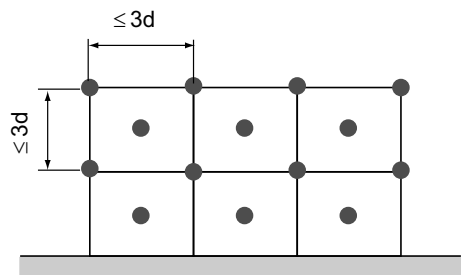
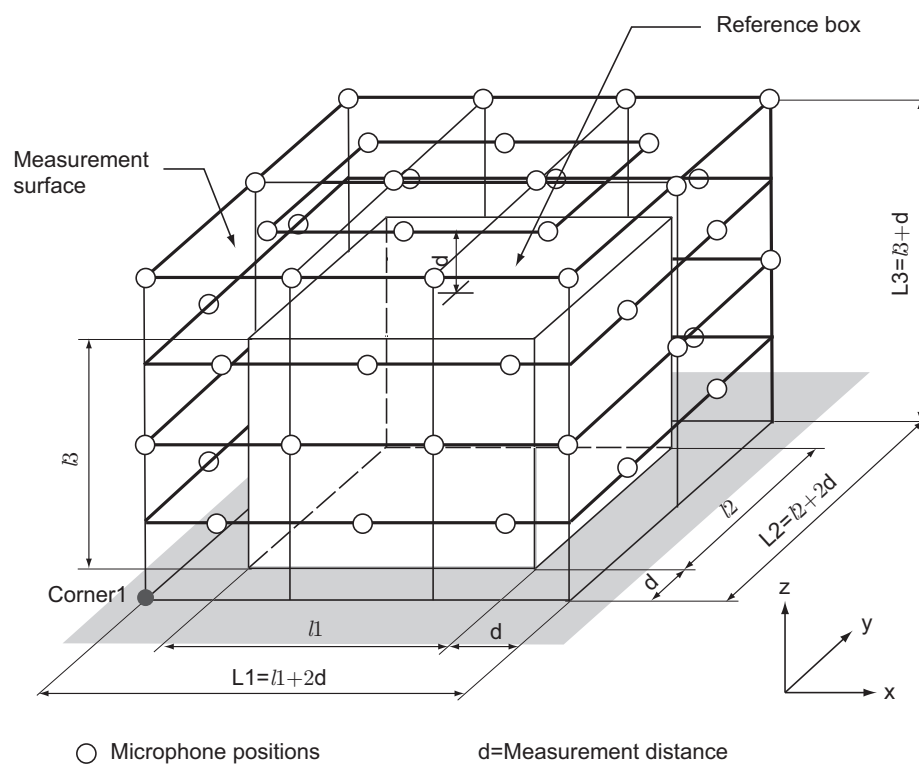
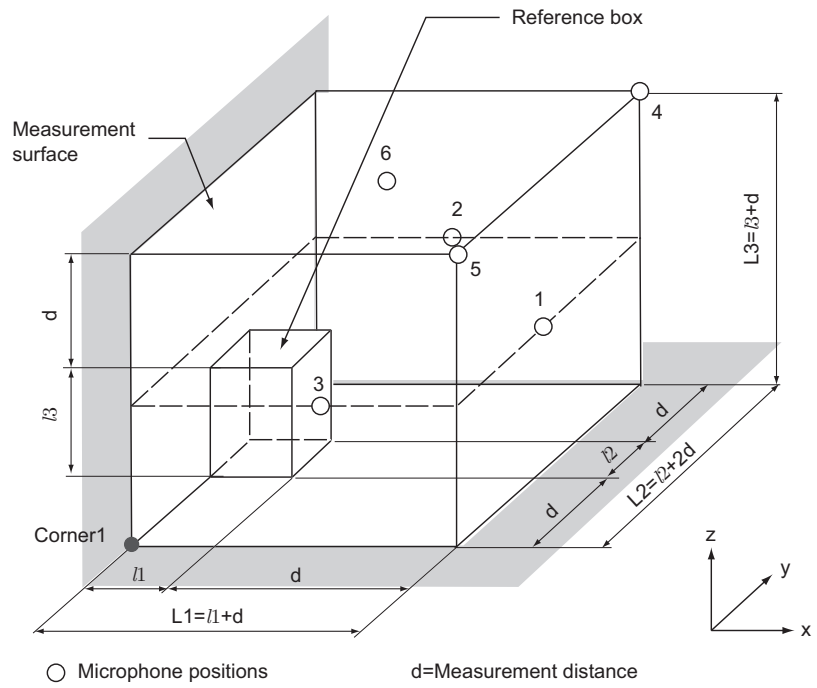
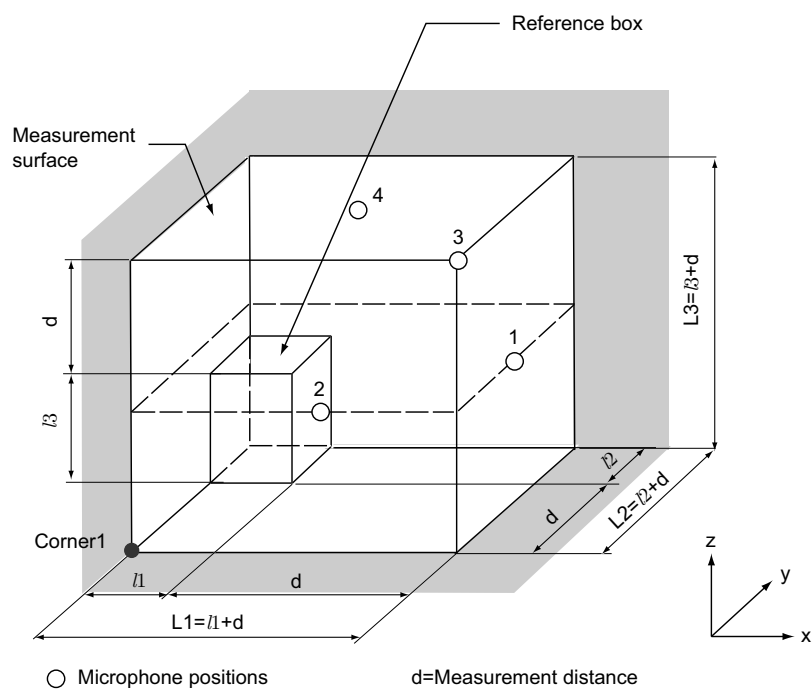

Figure 7.40 ISO3744 - Procedure for fixing microphone positions on a parallelepiped measurement surface.
Figure 7.41 ISO3744 - Parallelepiped measurement surface with microphone positions.
Figure 7.42 ISO3744 - Parallelepiped measurement surface with microphone positions for a source placed on the floor against a wall.
Figure 7.43 ISO3744 - Parallelepiped measurement surface with microphone positions for a source placed on the floor against two walls.
Parallelepiped Use parallelepiped measurement surface when there is only one reflecting plane. Figure 7.41 shows a parallelepiped measurement surface whose sides are parallel to those of the reference box. Click on the **Suggest** button to auto fill the measurement surface variables in agreement with the standard. Verify the input you have entered by clicking on the **Check** button. *Coustyx* checks to see if the input variables satisfy the standard requirements. If the standard requirements are not met, a message window pops up to help you make appropriate corrections.
X-Axis Specify the orientation of the X-axis here. See Figure 7.41 for definition.
Y-Axis Specify the orientation of the Y-axis here. See Figure 7.41 for definition.
Corner1 Specify Corner1 of the parallelepiped surface here. See Figure 7.41 for definition. The parallelepiped is constructed using Corner1 as the starting point and $L1$, $L2$, $L3$ as its dimensions along X, Y, Z-axis respectively.
L1 Length of the parallelepiped in X-direction (Figure 7.41). Specify the value of $L1$ such that it satisfies the definition, $L1 = l1 + 2d$, where $l1$ is the reference box dimension in X-direction, and d is the measurement distance. The recommended value for $d = 1\text{ m}$.
L2 Length of the parallelepiped in Y-direction (Figure 7.41). Specify the value of $L2$ such that it satisfies the definition, $L2 = l2 + 2d$, where $l2$ is the reference box dimension in Y-direction, and d is the measurement distance. The recommended value for $d = 1\text{ m}$.
L3 Length of the parallelepiped in Z-direction (Figure 7.41). Specify the value of $L3$ such that it satisfies the definition, $L3 = l3 + d$, where $l3$ is the reference box dimension in Z-direction, and d is the measurement distance. The recommended value for $d = 1\text{ m}$.
N1 Number of subdivisions in X-direction (Figure 7.41). Select the value of $N1$ such that the length of the rectangular partial area formed by these subdivisions satisfies the criterion: $\frac{L1}{N1} \leq 3d$, where $L1$ is the length of parallelepiped in X-direction, and d is the measurement distance. Refer Figure 7.40. The microphone positions are in the center of each partial area and at each corner of the partial area (excluding the corners intruding into reflecting planes).
N2 Number of subdivisions in Y-direction (Figure 7.41). Select the value of $N2$ such that the length of the rectangular partial area formed by these subdivisions satisfies the criterion: $\frac{L2}{N2} \leq 3d$, where $L2$ is the length of parallelepiped in Y-direction, and d is the measurement distance. Refer Figure 7.40. The microphone positions are in the center of each partial area and at each corner of the partial area (excluding the corners intruding into reflecting planes).
N3 Number of subdivisions in Z-direction (Figure 7.41). Select the value of $N3$ such that the length of the rectangular partial area formed by these subdivisions satisfies the criterion: $\frac{L3}{N3} \leq 3d$, where $L3$ is the length of parallelepiped in Z-direction, and d is the measurement distance. Refer Figure 7.40. The microphone positions are in the center of each partial area and at each corner of the partial area (excluding the corners intruding into reflecting planes).
Parallelepiped against wall Use this measurement surface when the source under test is placed on a floor against a wall. Figure 7.42 shows a parallelepiped measurement surface whose sides are parallel to those of the reference box. Click on the **Suggest** button to auto fill the measurement surface variables in agreement with the standard. Verify the input you have entered by clicking on the **Check** button. *Coustyx* checks to see if the input variables satisfy the standard requirements. If the standard requirements are not met, a message window pops up to help you make appropriate corrections.
X-Axis Specify the orientation of the X-axis here. See Figure 7.42 for definition.
Y-Axis Specify the orientation of the Y-axis here. See Figure 7.42 for definition.
Corner1 Specify Corner1 of the parallelepiped surface here. See Figure 7.42 for definition. The parallelepiped is constructed using Corner1 as the starting point and $L1$, $L2$, $L3$ as its dimensions along X, Y, Z-axis respectively.
- L1** Length of the parallelepiped in X-direction (Figure 7.42). Specify the value of $L1$ such that it satisfies the definition, $L1 = l1 + d$, where $l1$ is the reference box dimension in X-direction, and d is the measurement distance. The recommended value for $d = 1\text{ m}$.
- L2** Length of the parallelepiped in Y-direction (Figure 7.42). Specify the value of $L2$ such that it satisfies the definition, $L2 = l2 + 2d$, where $l2$ is the reference box dimension in Y-direction, and d is the measurement distance. The recommended value for $d = 1\text{ m}$.
- L3** Length of the parallelepiped in Z-direction (Figure 7.42). Specify the value of $L3$ such that it satisfies the definition, $L3 = l3 + d$, where $l3$ is the reference box dimension in Z-direction, and d is the measurement distance. The recommended value for $d = 1\text{ m}$.
- N1** Number of subdivisions in X-direction (Figure 7.42). Select the value of $N1$ such that the length of the rectangular partial area formed by these subdivisions satisfies the criterion: $\frac{L1}{N1} \leq 3d$, where $L1$ is the length of parallelepiped in X-direction, and d is the measurement distance. Refer Figure 7.40. The microphone positions are in the center of each partial area and at each corner of the partial area (excluding the corners intruding into reflecting planes).
- N2** Number of subdivisions in Y-direction (Figure 7.42). Select the value of $N2$ such that the length of the rectangular partial area formed by these subdivisions satisfies the criterion: $\frac{L2}{N2} \leq 3d$, where $L2$ is the length of parallelepiped in Y-direction, and d is the measurement distance. Refer Figure 7.40. The microphone positions are in the center of each partial area and at each corner of the partial area (excluding the corners intruding into reflecting planes).
- N3** Number of subdivisions in Z-direction (Figure 7.42). Select the value of $N3$ such that the length of the rectangular partial area formed by these subdivisions satisfies the criterion: $\frac{L3}{N3} \leq 3d$, where $L3$ is the length of parallelepiped in Z-direction, and d is the measurement distance. Refer Figure 7.40. The microphone positions are in the center of each partial area and at each corner of the partial area (excluding the corners intruding into reflecting planes).
Parallelepiped against corner Use this measurement surface when the source under test is placed on a floor against two walls. Figure 7.43 shows a parallelepiped measurement surface whose sides are parallel to those of the reference box. Click on the **Suggest** button to auto fill the measurement surface variables in agreement with the standard. Verify the input you have entered by clicking on the **Check** button. *Coustyx* checks to see if the input variables satisfy the standard requirements. If the standard requirements are not met, a message window pops up to help you make appropriate corrections.
X-Axis Specify the orientation of the X-axis here. See Figure 7.43 for definition.
Y-Axis Specify the orientation of the Y-axis here. See Figure 7.43 for definition.
Corner1 Specify Corner1 of the parallelepiped surface here. See Figure 7.43 for definition. The parallelepiped is constructed using Corner1 as the starting point and $L1$, $L2$, $L3$ as its dimensions along X, Y, Z-axis respectively.
L1 Length of the parallelepiped in X-direction (Figure 7.43). Specify the value of $L1$ such that it satisfies the definition, $L1 = l1 + d$, where $l1$ is the reference box dimension in X-direction, and d is the measurement distance. The recommended value for $d = 1\text{ m}$.
L2 Length of the parallelepiped in Y-direction (Figure 7.43). Specify the value of $L2$ such that it satisfies the definition, $L2 = l2 + 2d$, where $l2$ is the reference box dimension in Y-direction, and d is the measurement distance. The recommended value for $d = 1\text{ m}$.
- L3** Length of the parallelepiped in Z-direction (Figure 7.43). Specify the value of $L3$ such that it satisfies the definition, $L3 = l3 + d$, where $l3$ is the reference box dimension in Z-direction, and d is the measurement distance. The recommended value for $d = 1\text{ m}$.
- N1** Number of subdivisions in X-direction (Figure 7.43). Select the value of $N1$ such that the length of the rectangular partial area formed by these subdivisions satisfies the criterion: $\frac{L1}{N1} \leq 3d$, where $L1$ is the length of parallelepiped in X-direction, and d is the measurement distance. Refer Figure 7.40. The microphone positions are in the center of each partial area and at each corner of the partial area (excluding the corners intruding into reflecting planes).
- N2** Number of subdivisions in Y-direction (Figure 7.43). Select the value of $N2$ such that the length of the rectangular partial area formed by these subdivisions satisfies the criterion: $\frac{L2}{N2} \leq 3d$, where $L2$ is the length of parallelepiped in Y-direction, and d is the measurement distance. Refer Figure 7.40. The microphone positions are in the center of each partial area and at each corner of the partial area (excluding the corners intruding into reflecting planes).
- N3** Number of subdivisions in Z-direction (Figure 7.43). Select the value of $N3$ such that the length of the rectangular partial area formed by these subdivisions satisfies the criterion: $\frac{L3}{N3} \leq 3d$, where $L3$ is the length of parallelepiped in Z-direction, and d is the measurement distance. Refer Figure 7.40. The microphone positions are in the center of each partial area and at each corner of the partial area (excluding the corners intruding into reflecting planes).